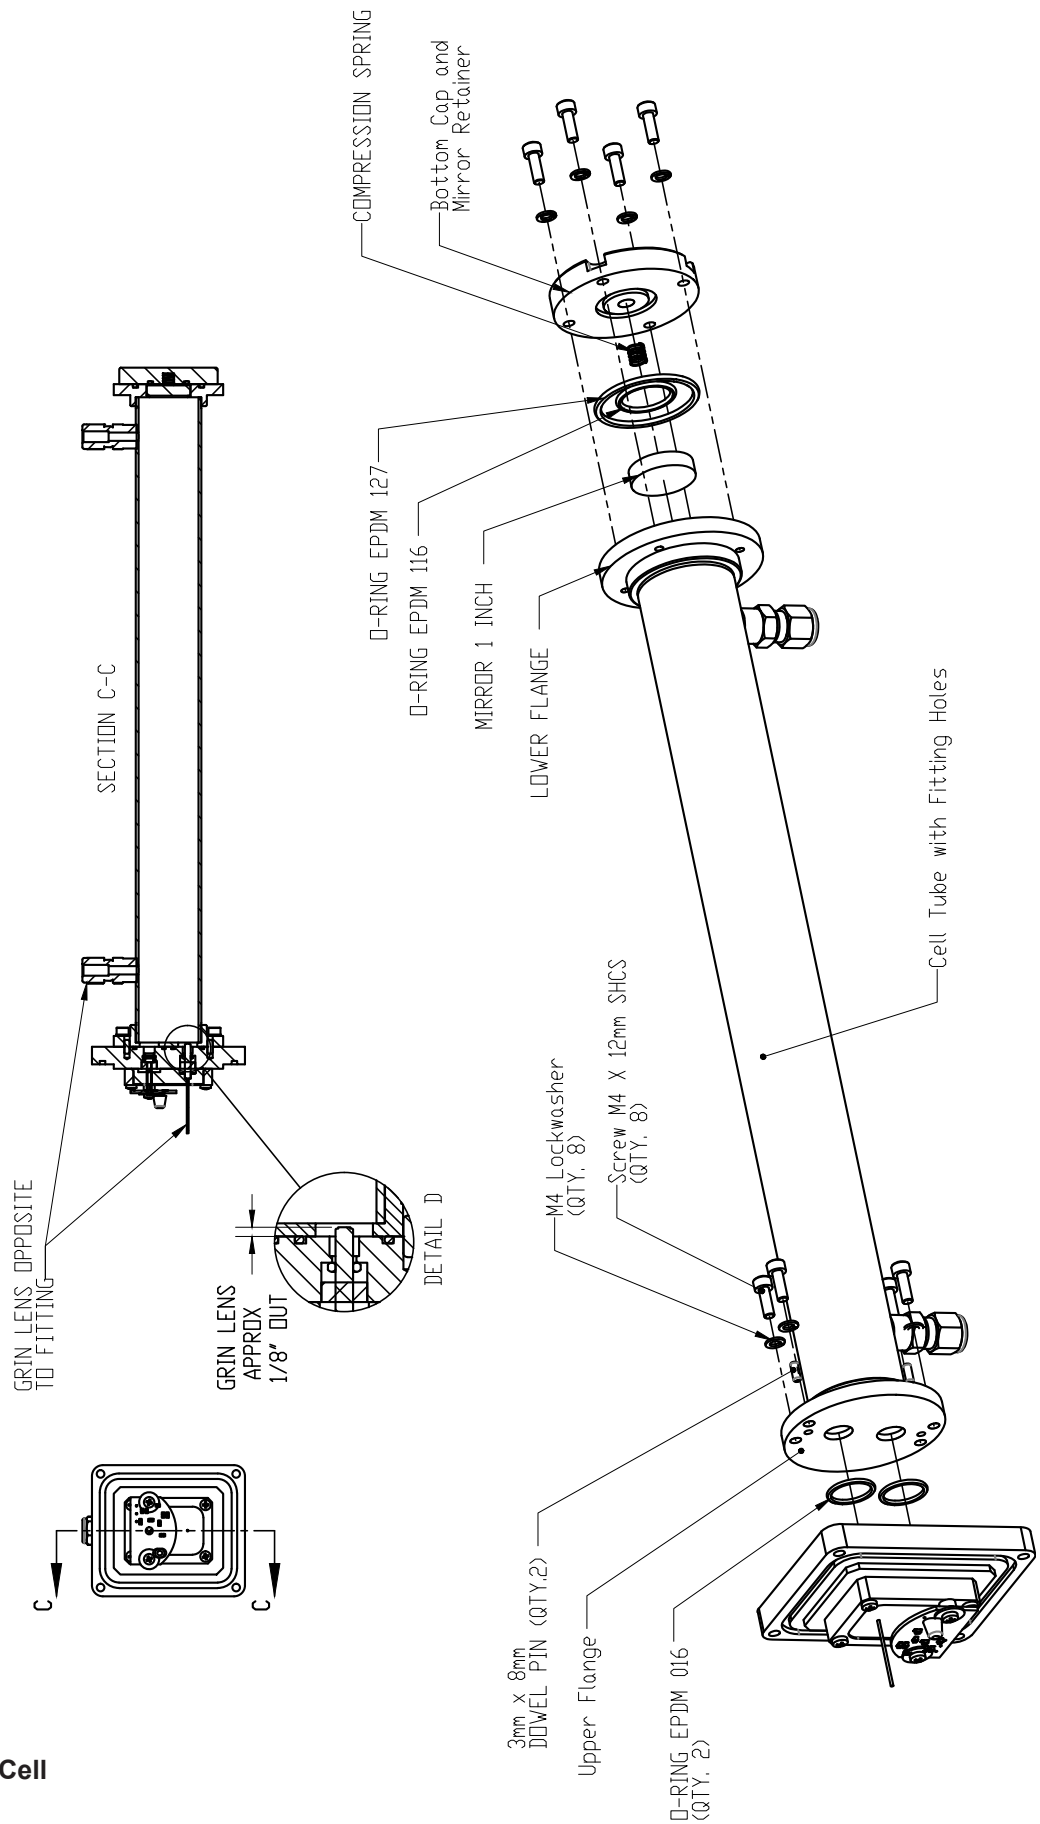

**Figure 3.**
4. Disassemble and clean and replace parts in the Sample Cell (Figures 3 and 4):
- a. With the Sample Cell on a workbench or suitable work area, remove the four (4) screws and four (4) lock washers that secure the Bottom Cap to the Sample Cell.